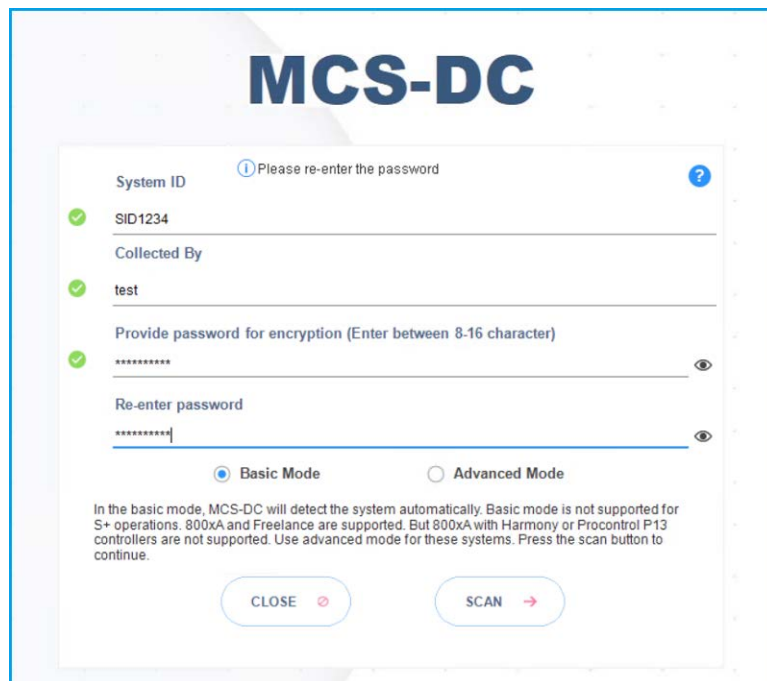

Figure 101. MCS-DC Launcher
2. Double-click on the **MCS-DC_Launcher.exe**, to launch the tool. It is present inside the unzipped MCS-DC folder. The initial screen appears as shown in Figure 101. MCS-DC tool runs the below checks on the launch node. If the check is passed, a Green tick mark is shown, click the **Launch** button to proceed for data collection. If the check fails, a Red cross mark is shown, user has to fix the issue and launch the MCS-DC tool again.